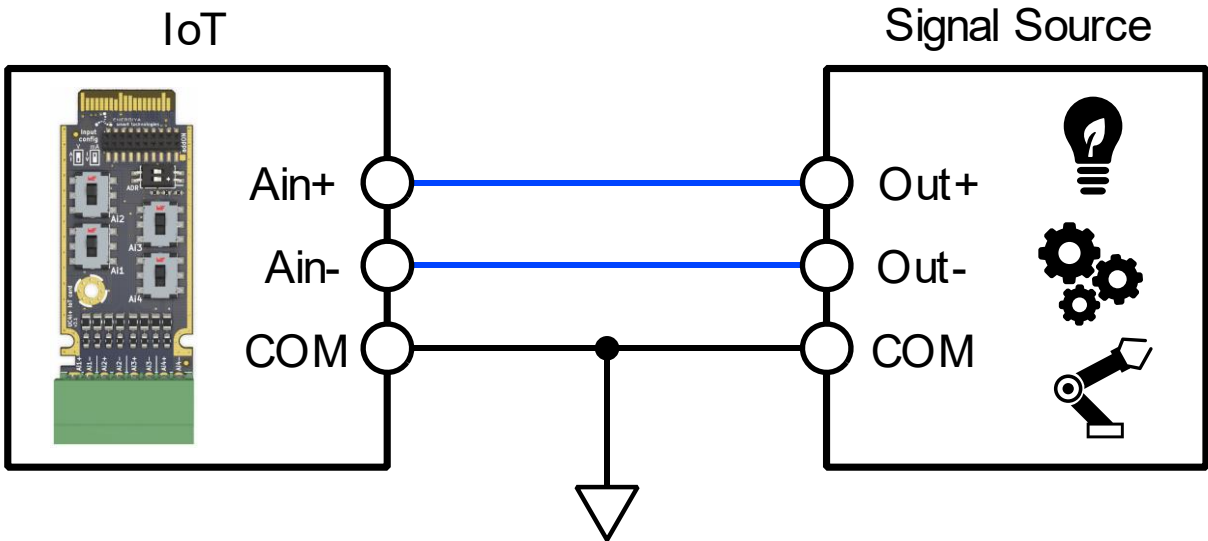

fig. 7
The following configuration with common ground in Figure 7 is only allowed if the measurement signal source has a differential output.
**Important!** Similar way of incorrectly connecting devices will be for the diagram in Figure 7.